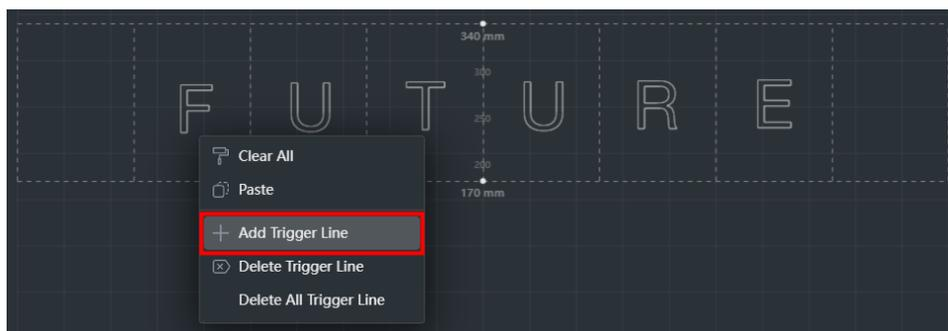

Figure 5.59 Add trigger line
1. Right-click a position on the drawing area and select **Add Trigger Line**, as shown in Figure 5.59.